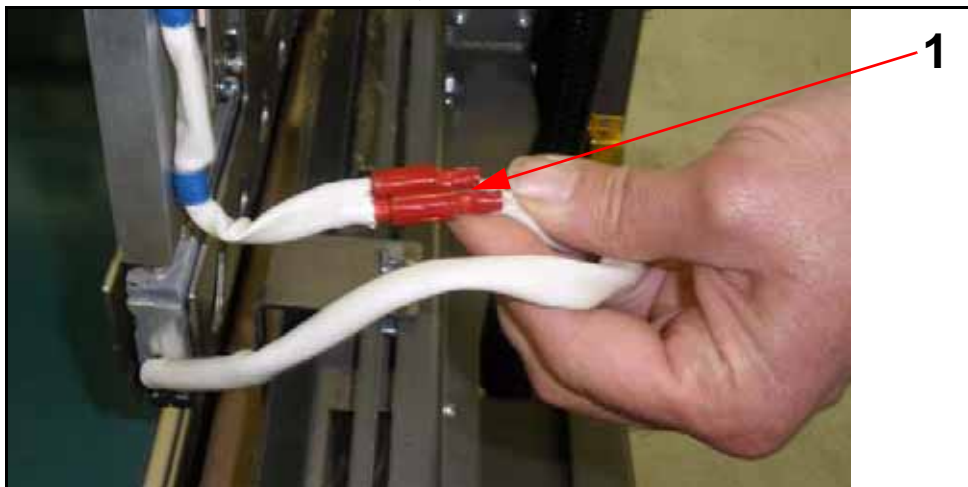

Figure 7-32. Heater Element Terminals
- 2 Disconnect heater element terminals (1 in Figure 7-32).